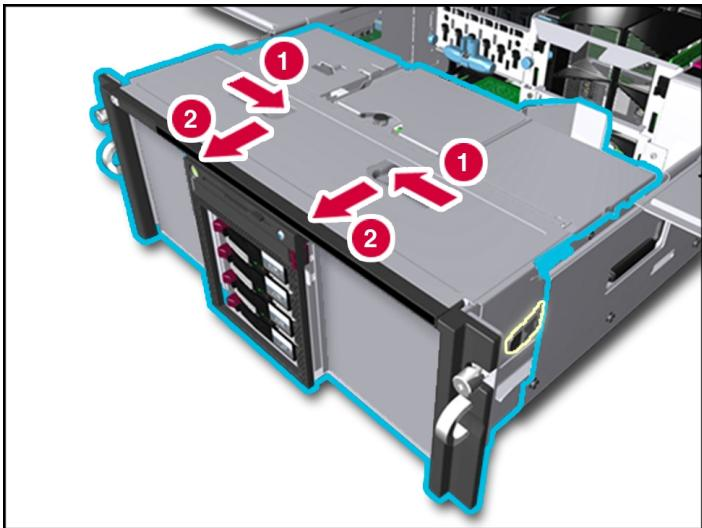

Figure 3-8: Releasing the power and media module
7. Slide the module release levers (1) on the power and media module, as shown in Figure 3-8.
8. Pull the power and media module (2) out of the chassis until it encounters the module stop latches.